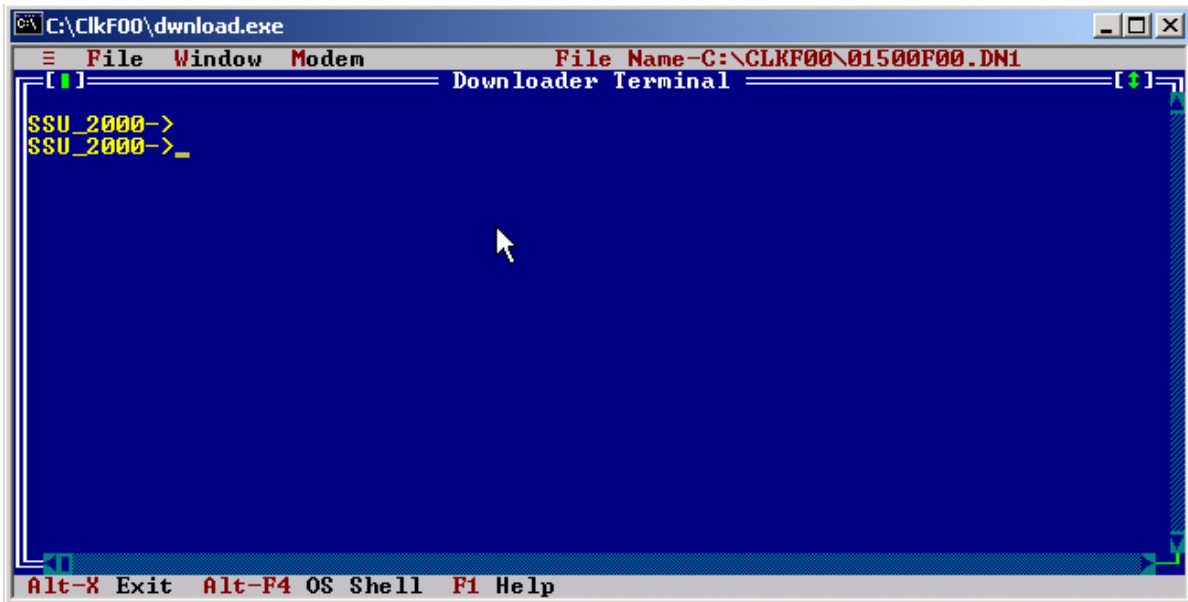

Figure H-3. Terminal Emulation Window
8. Select the File menu (or press Alt+F), and select the Terminal (or press the T key) option. A terminal emulation window appears, as shown in Figure H-3.
9. Press the **ESC** key. The SSU-2000 prompt appears, as shown in Figure H-3.